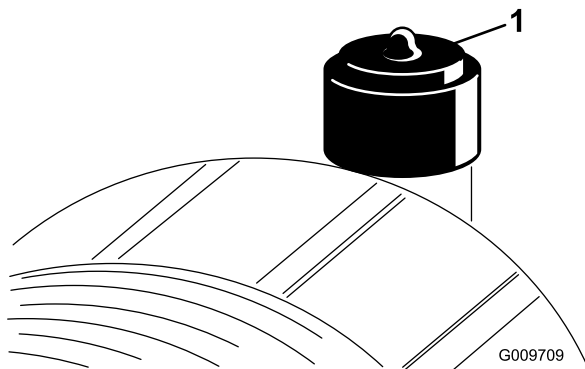

Figure 47
- Replace the air cleaner element when the air-cleaner indicator (Figure 47) shows red. Do not over-clean the air-filter element.
3. Reset the air-cleaner indicator if it shows red; refer to Figure 47 in Checking the Air Cleaner Indicator (page 40).